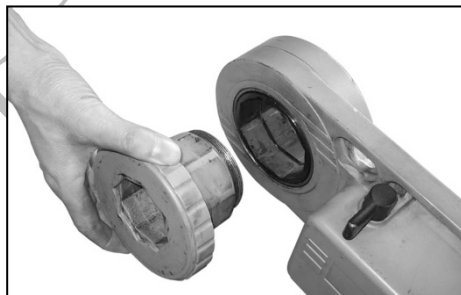

Figure 1
- Push adapter into threader and tighten the ring on the opposite side (figure 1 and 2 below).